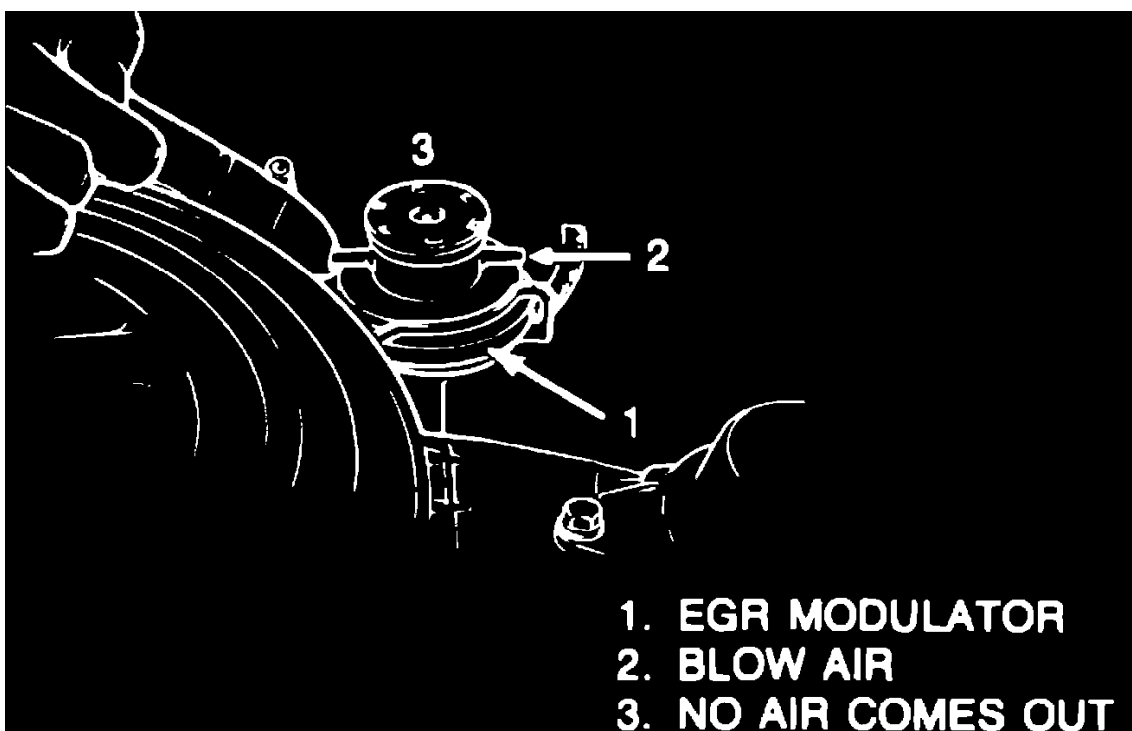

Fig. 18 High speed EGR modulator test
4. Increase engine speed to 5000 RPM and plug one nozzle of modulator. Blow air into other nozzle. Strong resistance to air flow should be felt, **Fig. 18**.